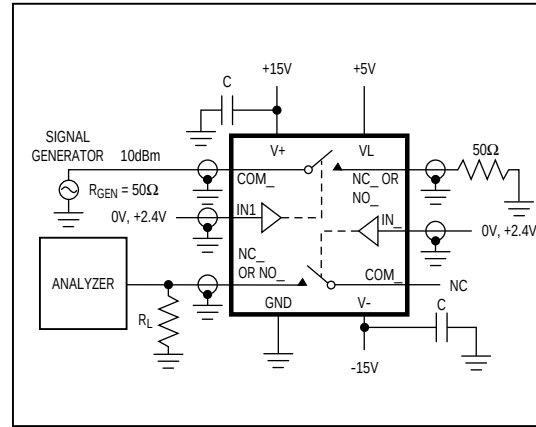

Figure 5. Crosstalk Test Circuit
| Crosstalk (Note 6)         |           | RL = 50Ω, CL = 5pF, f = 1MHz, Figure 5                                | TA = +25°C        |      | 100             |       | dB    |
**Note 6:** Between any two switches. See Figure 5.